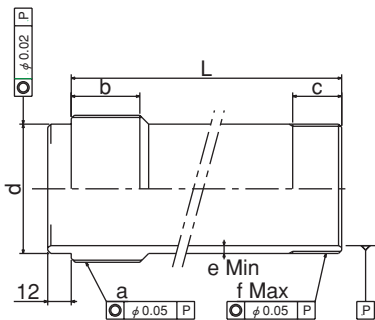

Fig. 14
The dimension L in Fig. 14 is determined from the distance A between the cylinder adapter and the back plate.
- Keep the dimension e and the dimension f in Fig. 14 for the draw pipe and a material with the tensile strength 380MPa (38kgf/mm²) or more must be used.